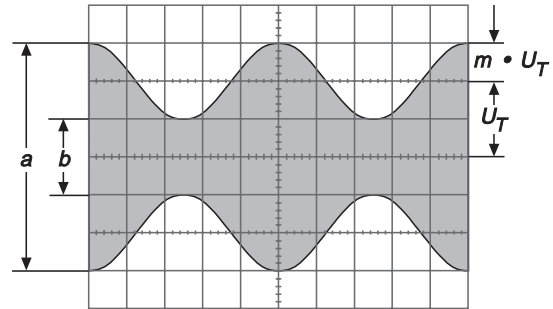

Figure 2
Oscilloscope setting for a signal according to figure 2:
**Fig. 2** shows a case where only the desired parts of the signal are stably displayed.